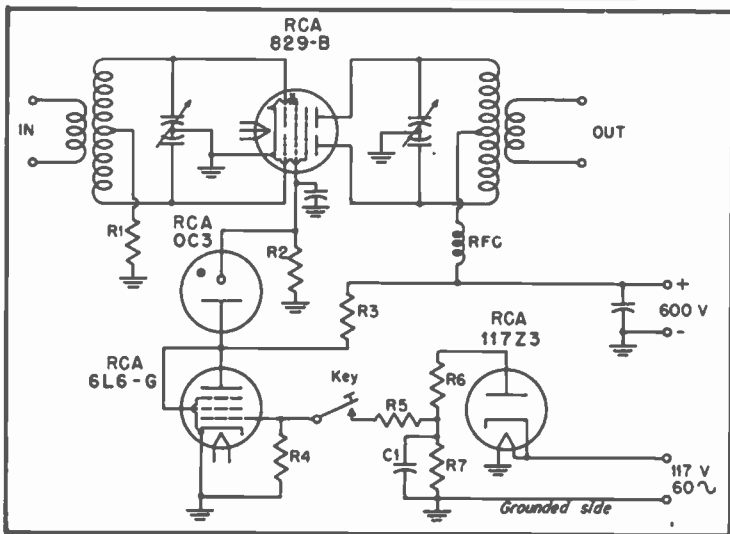

Figure 5
A practical application of the system is shown in Fig. 5. Here an 829-B final is keyed with an 0C3 controlled by a 6L6-G. Cutoff bias for the 6L6-G is obtained from a 117Z3 as shown, or it can be taken from any type of supply capable of furnishing 125 volts of bias.
- Fig. 5